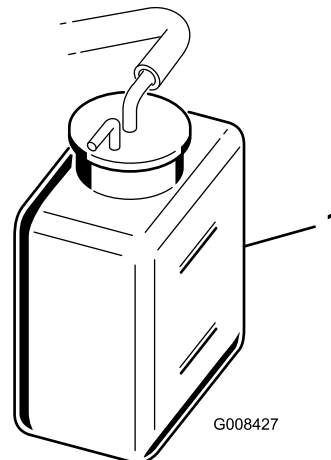

Figure 32
2. Check the coolant level (Figure 32). It should be between the lines on the reserve tank when the engine is cold.